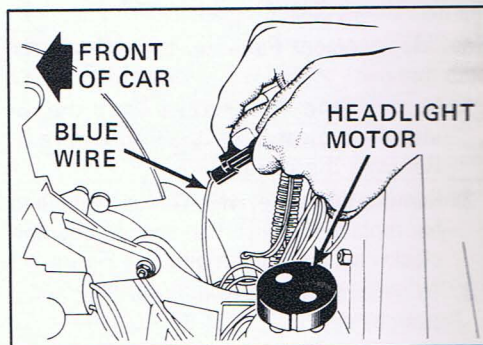

Figure 1 - Deactivating left hand headlight mechanism
3. Separate the 1-cavity black connector at the blue wire near the headlight you are replacing. This deactivates the motor for that headlight. See Figure 1.